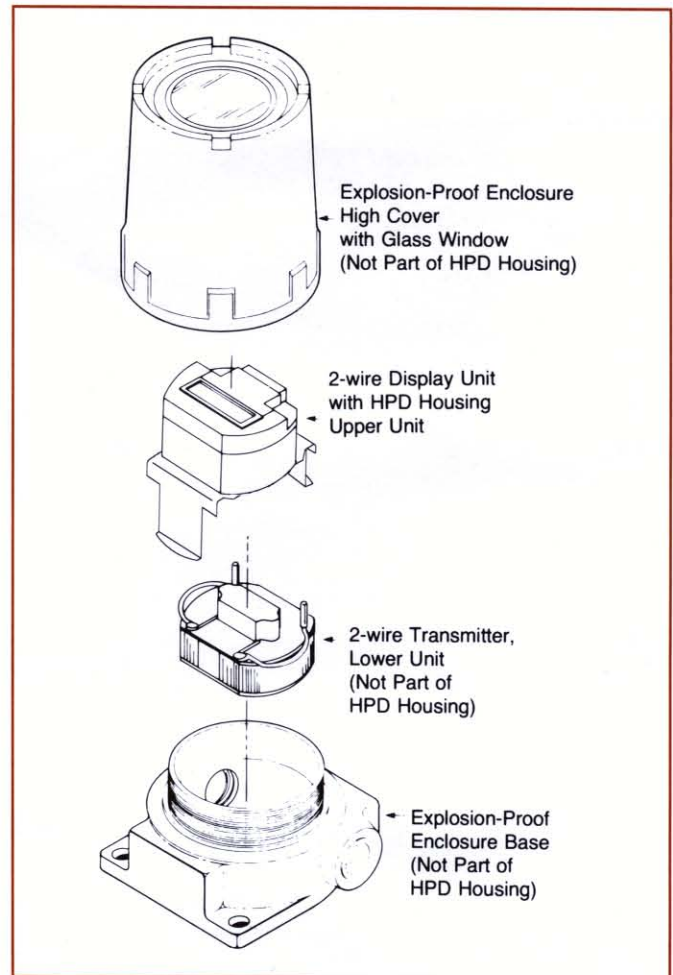

Figure 2. Typical Installation
1. The HPD housing is a variation on the hockey-puck (HP) housing. In this version, a bracket is added, enabling a unit to mount above another Moore Industries 2-wire transmitter. Both units then fit into an explosion-proof enclosure. The HPD housing may be used to mount a display unit (ITX, DSX or DVX) above a transmitter; typical combinations include TCX/DVX for temperature readout and PIX/ITX for flow total readout.
6. When a unit is ordered with an HPD housing it is usually ordered with a second 2-wire transmitter beneath it in an explosion-proof enclosure. In this case specify the HPD housing for the upper unit and the explosion-proof enclosure for the lower unit. See Figure 2, Typical Installation, and the example below.